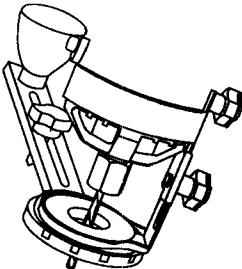

Fig. 13
- 4 Rest the edge of the sole plate on the workpiece with the bit at an angle of about 45° (see Fig. 13). Insert the circle cutter pivot point into the pilot hole drilled at the center of the circle.